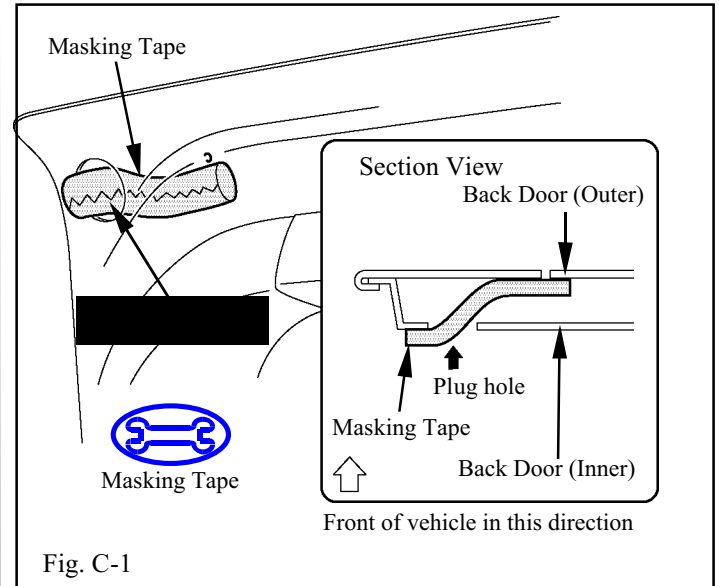

Fig. C-1
2. Roll a strip of masking tape into a cylinder shaped and insert through drivers side plug hole as shown in Fig. C-1.